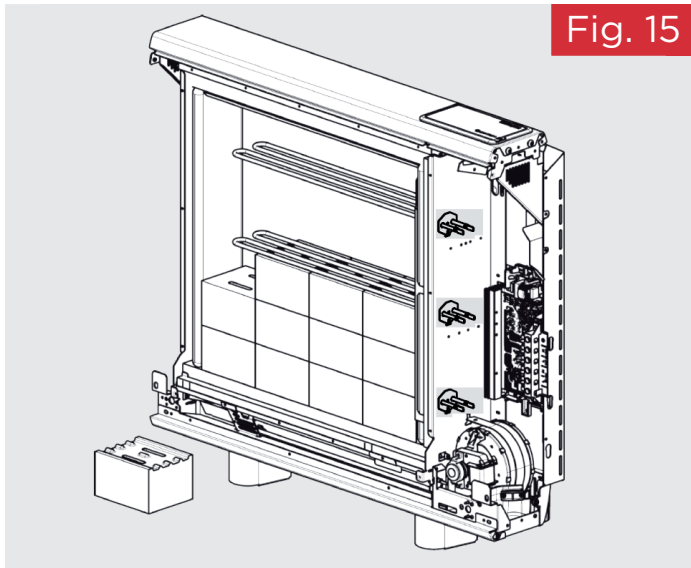

Fig. 15
15. The third row of energy cells is positioned in a manner similar to the first row. Again be careful not to damage or dislodge the element. (Fig. 15)